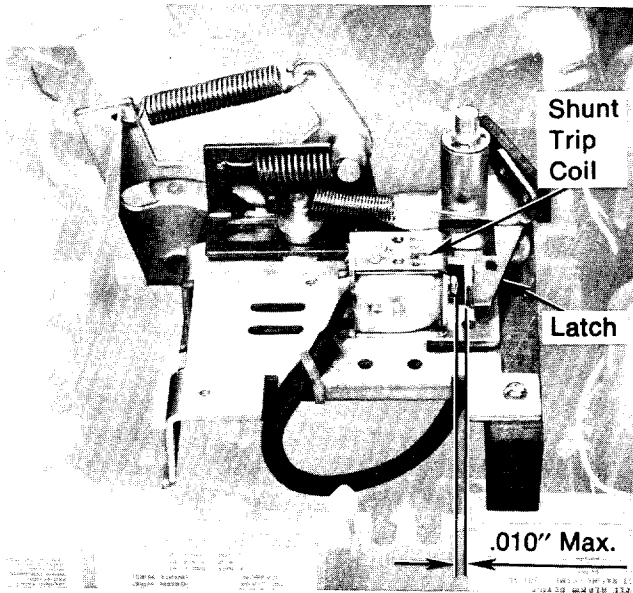
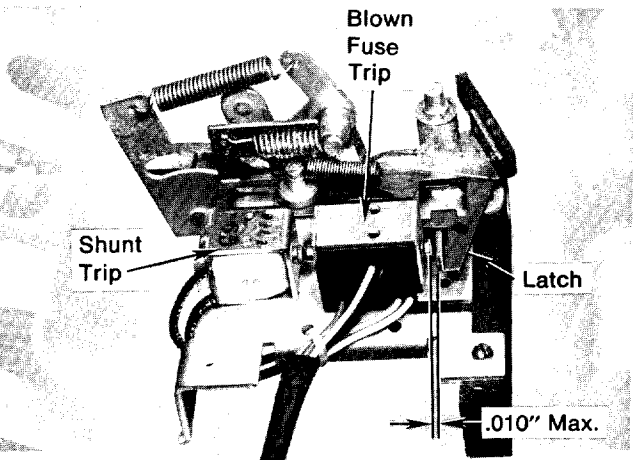

Fig. 4
Fig. 5
- Coat the new shunt trip coil mounting screws with Loctite provided in kit. Assemble coil to mounting plate as shown in Fig. 4 but do not tighten screws. If the mounting plate is equipped with a blown-fuse trip device, mount the shunt trip as shown in Fig. 5.
- Fully retract the coil plunger so that its stop nut is in contact with the body of the coil. Push the coil body forward leaving a 0.010" maximum gap between plunger stop nut and latch (Fig. 4). When supplied with a blown-fuse trip device, the shunt trip plunger stop-nut is placed in contact with the plunger of the blown fuse trip device. A 0.010" max. clearance, however, is retained between its stop-nut and the latch (Fig. 5). Tighten the coil's mounting screws.